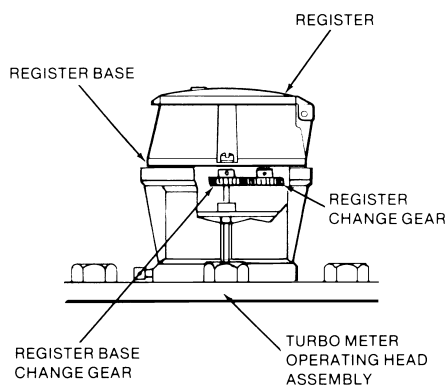

Figure 2: Change gear location, register base and register assembly
5. Install the corrected change gears, taking care to assemble the correct change gears to the appropriate spindles (see *Figure 2*). For registers, see "*Servicing*" on page 12 for instructions on the proper method of installing and meshing change gears. On meters with 76 Series registers, provision for change gear adjustment is built in. See the applicable register's user manual for recalibrating instructions.
- a. Place the bottom of the register on the top edge of the gage. See *Figure 2 on page 9*.